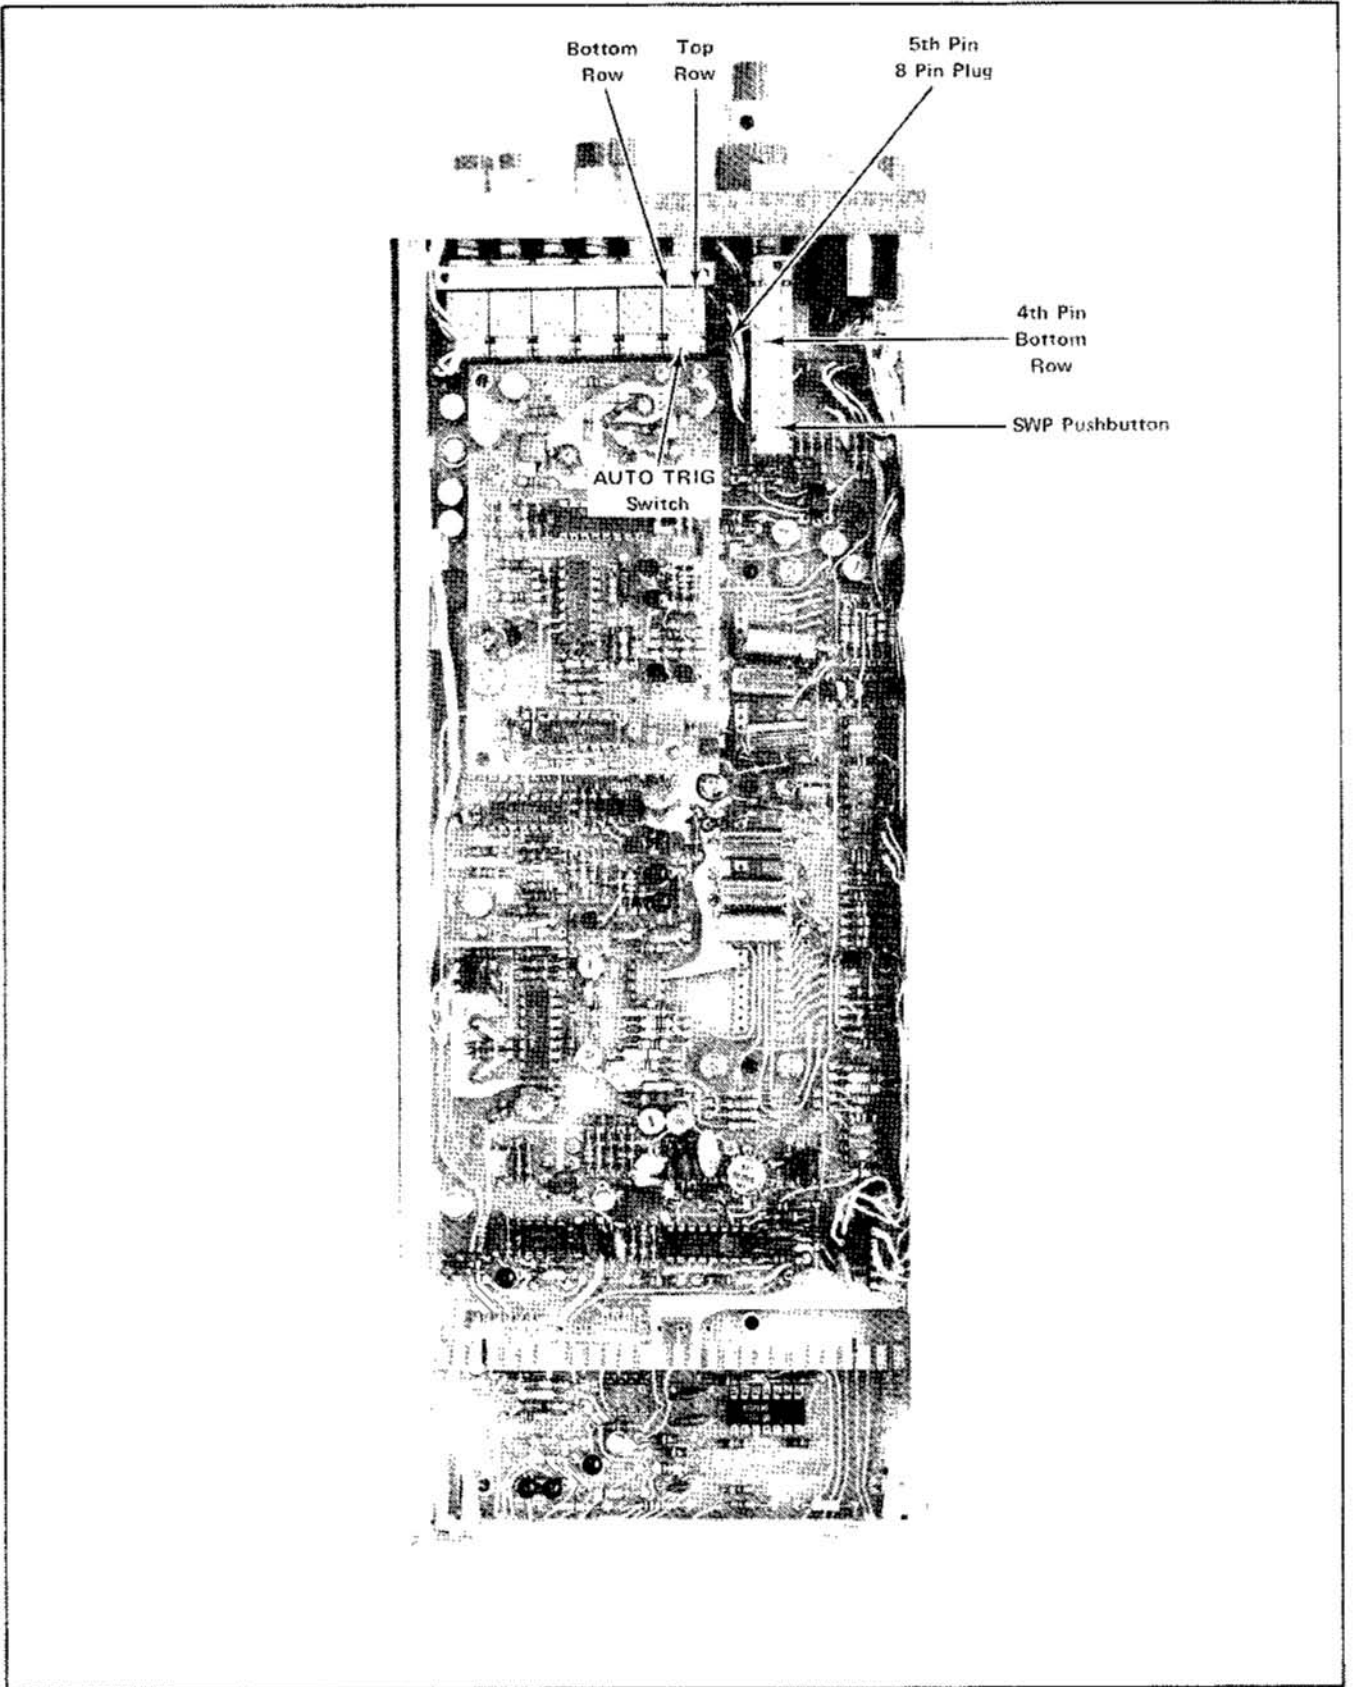
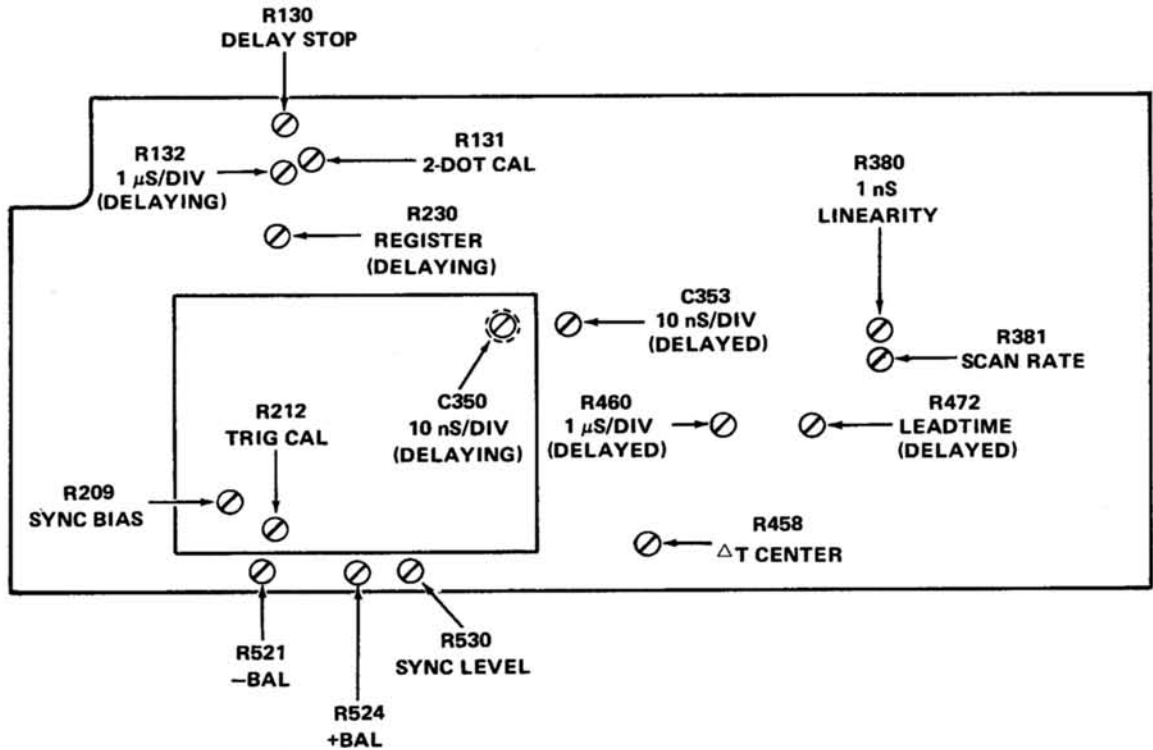

Fig. 7-2. Horizontal Board Test Points.
Fig. 7-3. Triggering and Timing Adjustment Locations.
- b. Push the 7S14 HF SYNC button and adjust R212 (see Fig. 7-3) for a display.
- d. Touch the 1X probe to pin 1-5 of the Horizontal Board. Pin 1-5 is located just above the AUTO TRIG pushbutton switch. (See Fig. 7-2 - the fifth pin from the front panel is the correct pin.) Adjust the LEVEL control so the free running trace is located on the horizontal centerline of the graticule. If the white dot on the LEVEL control is not located between the 11 and 1 o'clock positions, loosen the control set screw then rotate the control knob and tighten the set screw so the white dot is located at the 12 o'clock position.
c. Touch the 1X probe to the base of Q202 and adjust R530 (see Fig. 7-3) to set the DC level of Q202 to match the DC level of Q201.
e. Touch the 1X probe to the base of Q202 and adjust R524 (see Fig. 7-3) so that the DC level is +60 mV above the DC level of Q201.
h. Touch the 1X probe to the base of Q202 and adjust R521 (see Fig. 7-3) so that the DC level is –60 mV below the DC level of Q201.
a. Set the TRIGGERING LEVEL control completely counterclockwise. Preset R209 (see Fig. 7-3) completely counterclockwise.
e. Touch the tip of the 1X probe to the fourth pin back on the bottom row of pins of the SWP pushbutton (see Fig. 7-2), then adjust R131 (see Fig. 7-3) to position the trace (displayed by the 7A13) on the horizontal centerline of the mainframe graticule.
Adjust R130 (see Fig. 7-3) so that the left-hand dot is at the zero graticule line.
c. Adjust R132 (see Fig. 7-3) to set the 2nd (right-hand) dot on the ninth time marker in the same location as the 1st dot is located on the first time marker.